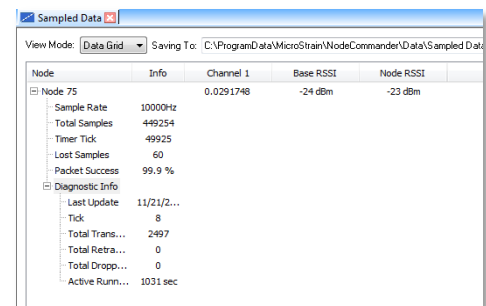

Figure 11: Data Grid View
8. Depending on the sampling setup, many seconds will transpire before data arrives and is displayed in the Data Grid View (Figure 11). Be patient. The initial display of data will indicate success of the first burst sampling session. Click the + sign to the left of the Node to get sampling statistics.